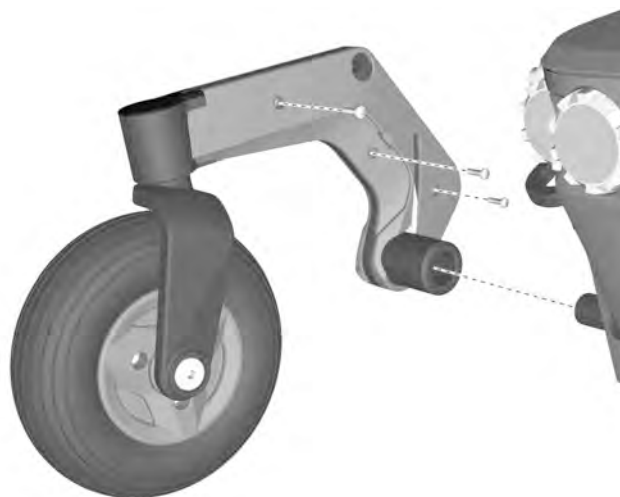

Figure 13. The link arm covers are mounted with three screws.
4. Remove the three screws holding the link arm covers, see fig. 13.
1. Fit the link arm covers using the three screws, see fig. 13.